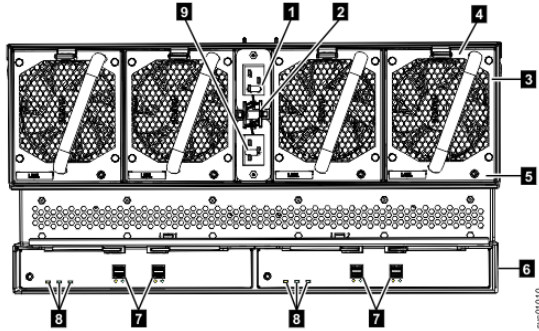
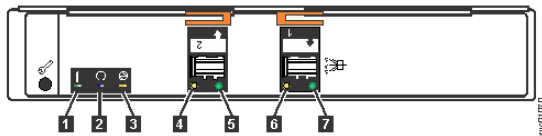

Figure 146. LEDs on the back of the expansion enclosure
Figure 147. LEDs on the back of the expansion canister
Table 19 on page 122 explains the function and status that is indicated by each of the LEDs. The power cords for each PSU are accessible from the rear of the expansion enclosure (1), as shown in Figure 146 on page 124.
Figure 146 on page 124 shows the rear view of a 2145-92F expansion enclosure. LEDs on the rear of the enclosure provide information about each fan module, each expansion canister, and SAS links.
The expansion enclosure has four fans. Each fan has one LED; for example, Figure 146 on page 124 shows the location of the LED (5) for fan number four. When a fan is operating normally, the LED is not lit. If a fault is detected, the amber LED is lit.
As Figure 146 on page 124 also shows, the expansion enclosure contains two expansion canisters. Each expansion canister contains its own set of LEDs, as shown in Figure 147 on page 124. The LEDs provide status information about the expansion canister itself and the SAS connections.